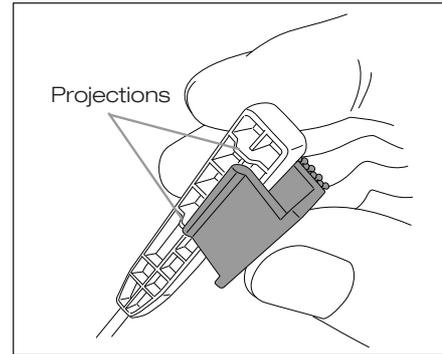

Figure 23
1. Put the fit-in type surface fastener into the wafer jam repair tool by inserting it between the projections of the tool (See Figure 23).